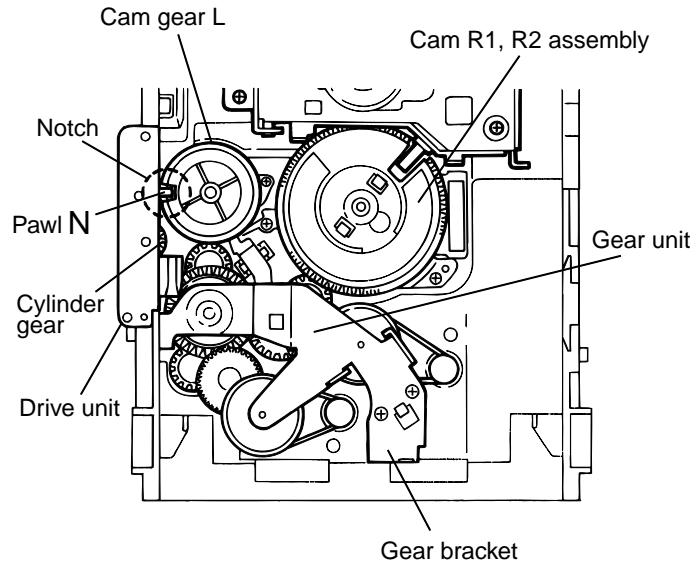

Fig.24
**[Caution]** To re-assemble the cylinder gear, etc. with the cam unit (cam gear and cans R1/R2 assembly), gear unit and drive unit, align the position of the pawl "N" on the drive unit to that of the notch on the cam gear L. Then, make sure that the gear unit is engaged by turning the cam gear L (See Fig. 24).